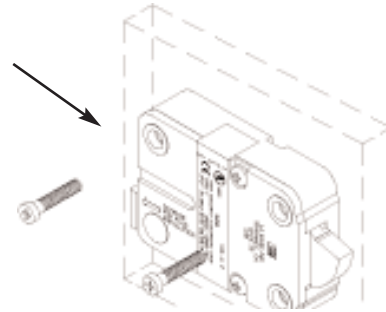

Figure 5
- ③ Making sure that the entry cable is running through the notch at the back of the lock. Mount the lock with the three (3) US 1/4”-20 or M6 mounting screws provided, see Figure 5.